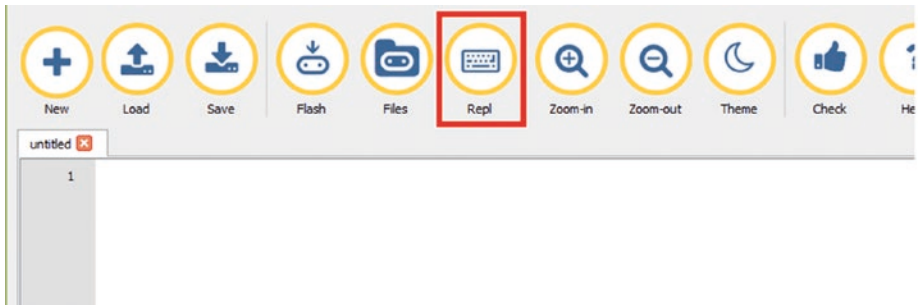

Figure 1-31. *The Repl button*
2. Then click the Repl button on the toolbar to open an interactive shell (see Figure 1-31).